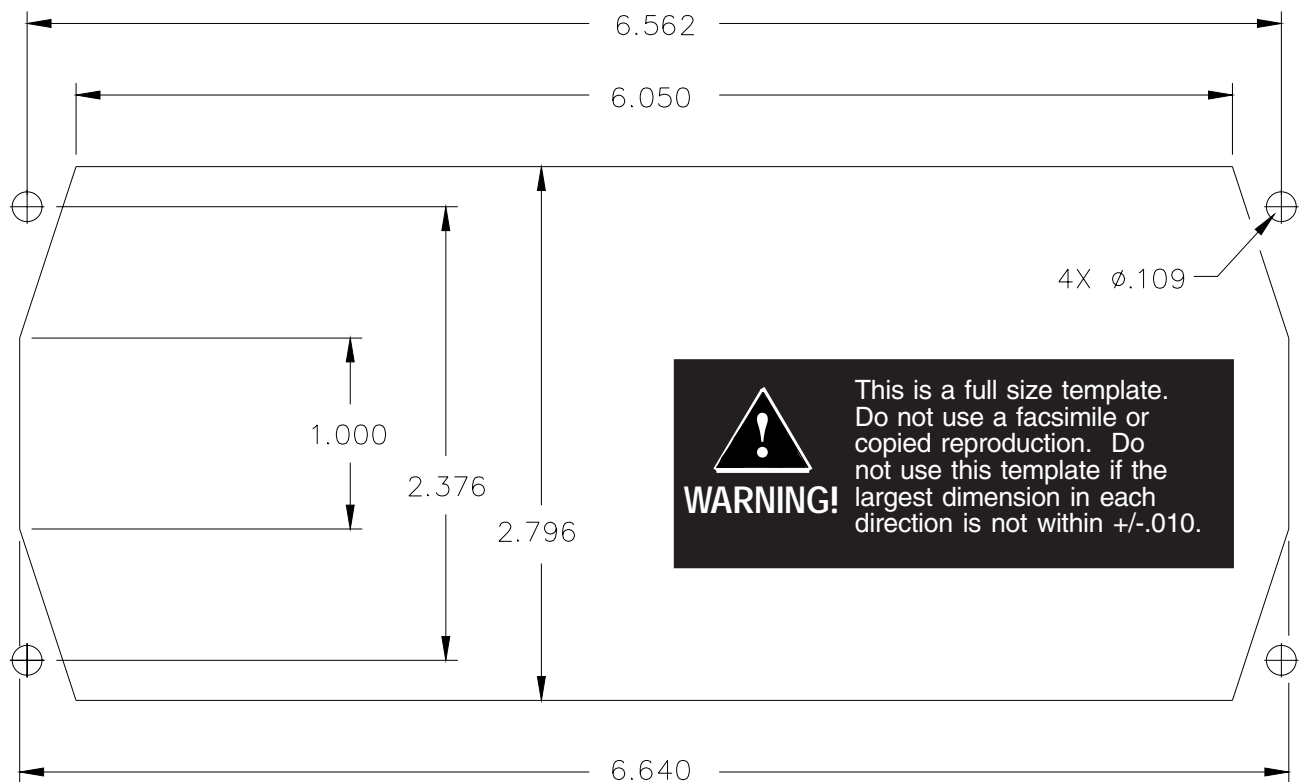

FIGURE 2
3. Cut the opening and drill the holes, use the template in Figure 2 or the trim bezel if your light head is so equipped. (No opening necessary for 41SPKG.)